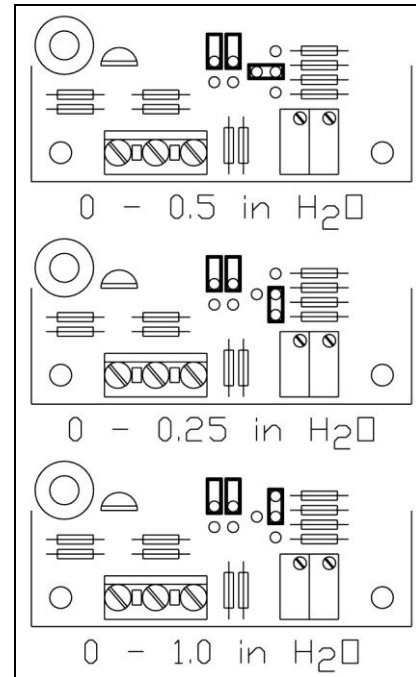

Figure 3: Pressure Transducer Jumpers
- Verify that the jumpers on the pressure transducer are installed correctly, per Figure 3. The default pressure transducer output range is 0 to 0.5 in H₂O.